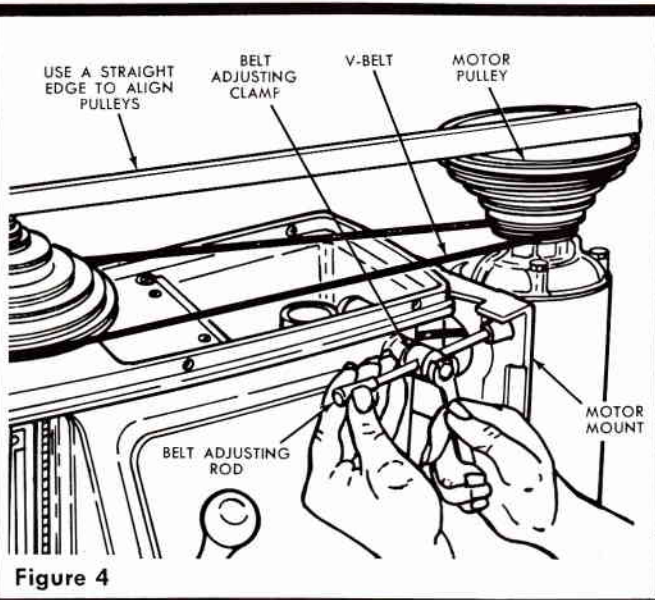

Figure 4
8. Mount motor pulley on motor shaft so that small diameter is at the bottom (see figure 4), align the motor pulley vertically with the spindle pulley and tighten the pulley set screw. If motor shaft has a "flat", position the pulley so that pulley set screw tightens against the "flat".
9. Loosen screw on belt adjusting clamp (see figure 4). Place the V-Belt around the lower pulley grooves (see figure 4) and take up the slack by pivoting the motor mount away from the drill press head. Hold the motor mount in this position, slide the belt adjusting rod until its tip contacts the motor mount and tighten screw on belt adjusting clamp.